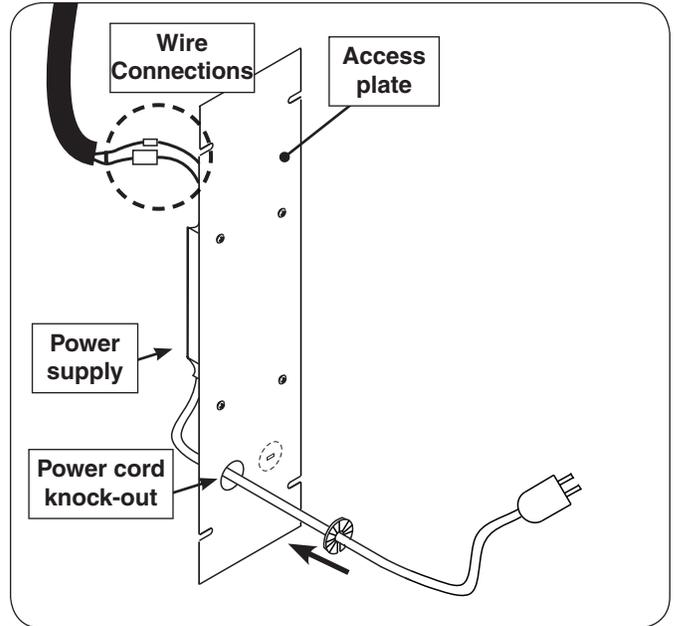

Fig. 14-1 Access plate view & orientation
A power supply is pre-mounted to the access plate. For ease of installation, disconnect the power supply from the wire harness extension. Locate the wires coming from the inside of the post to the power supply and carefully disconnect (see Fig. 14-1 and 14-2).
3. Remove the plastic power cord bushing fastened to the inside of the post and install it onto the power cord. Slide the bushing up against the access plate knock-out hole and snap into place. See Fig. 14-1.